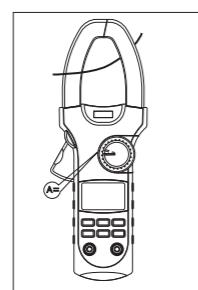

Figure 9
**G. Measuring DC Current (See Figure 9)**